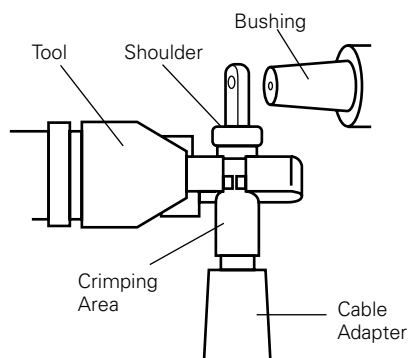

Figure 22. Line illustration of crimping area.
- Make first crimp 1/2" (13 mm) below shoulder of compression connector. (Refer to Figure 22).